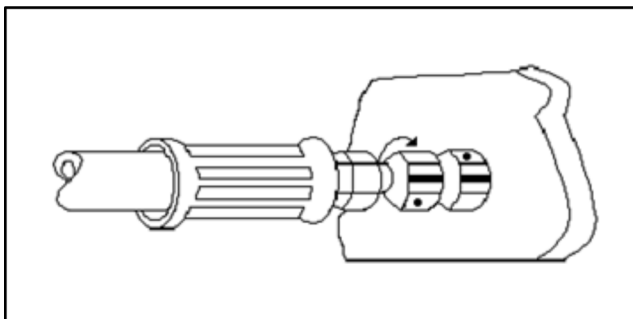

Figure 5-12. FFWR Method
4. After the connection has been properly tightened, mark a straight line across the connecting parts, not covering the dots, to indicate the connection has been properly tightened. See Figure 5-12.